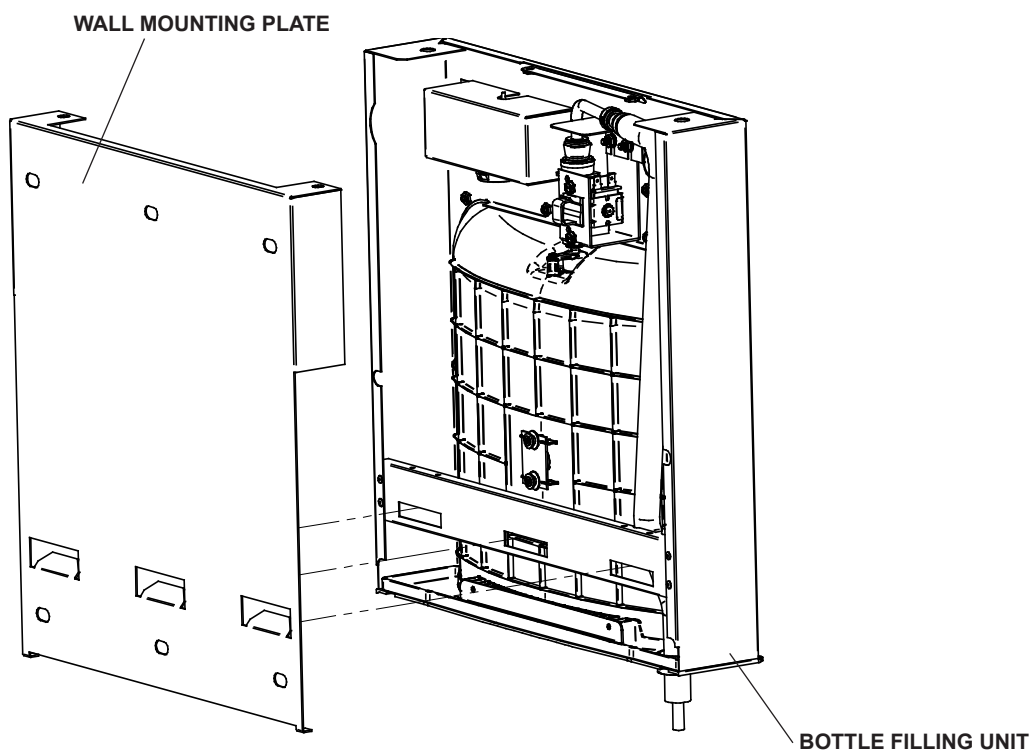

Fig. 10
- 8) **With the power cord and waterline through hole** on top of water cooler place Bottle Filler on the three (3) angled tabs protruding from the wall mounting plate installed on wall. Make sure round boss in gasket fits in hole of basin. (See Fig. 10).
- 9) **Once Bottle Filler is installed on wall plate tabs**, water line and power cord are installed properly, push top of Bottle Filler toward wall and line up top cover two (2) holes.